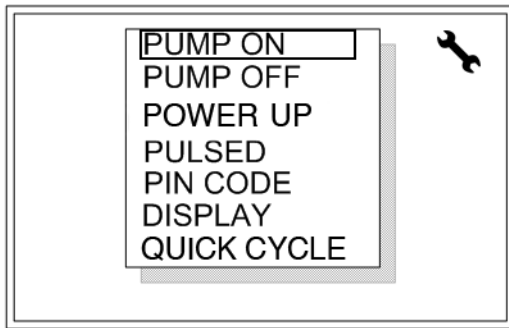

FIG. 23
8. If the PIN Code you entered is correct, the System Setup Screen, shown in FIG. 23 displays.
1. Use the UP/DOWN arrows to move the cursor up and down through the list of setup screens (FIG. 23).